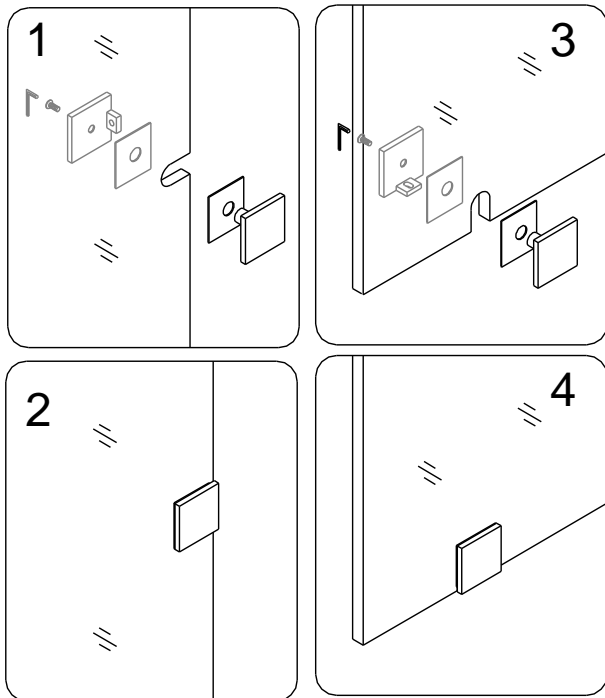

Fig. 3
3. a) Take the **Return glass panel (22)** and the **Wall & Bottom Brackets for Return Glass (19)**. Attach the brackets to the glass. See fig. 3&4 for details.